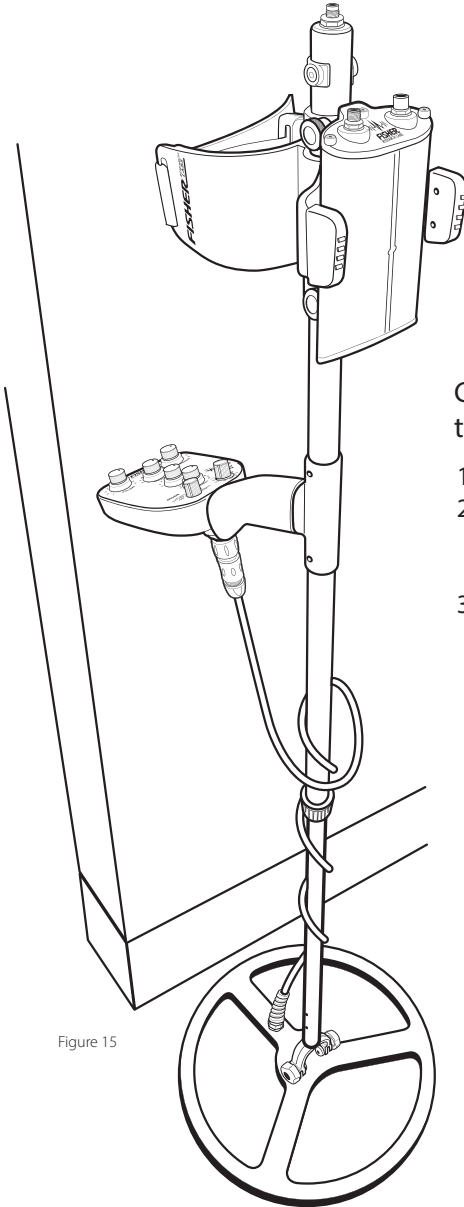

Figure 15
3. Stand detector up with control housing against the wall (figure 15).